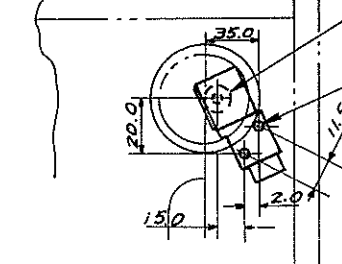

FIG. 3 VIEW A-A
- e. Remove two attaching nutplates for instrument light that has been removed in the preceding step 2. (See figure 3).
- f. Drill two .379/.375 in diameter holes in structure as illustrated in figure 3, and install two nutplates.
- g. Drill a 6.4 mm diameter hole in panel removed in step 4, and install a grommet, MS35489-15. Also drill two .149/.139 in diameter holes in the panel. (See Figure 3.)